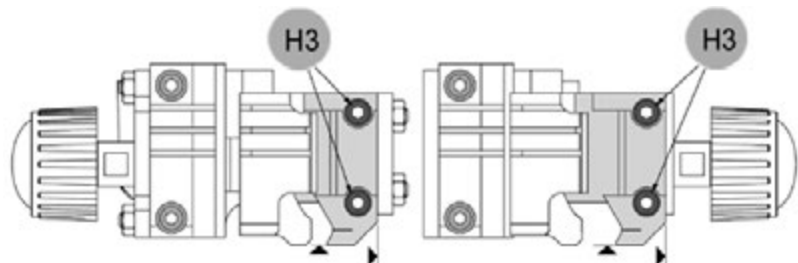

Fig. 88
- 2) Carefully clean the seat and fit the new jaw up against the right-hand side and align also from the front (Fig. 88).